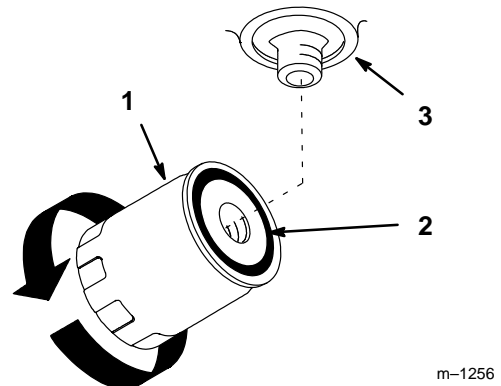

Figure 30
4. Apply a thin coat hydro fluid to the rubber gasket on the replacement filter (Fig. 30).
7. When fluid overflows filter turn the oil filter clockwise until the rubber gasket contacts the filter adapter, then tighten the filter an additional 1/2 turn (Fig. 30).